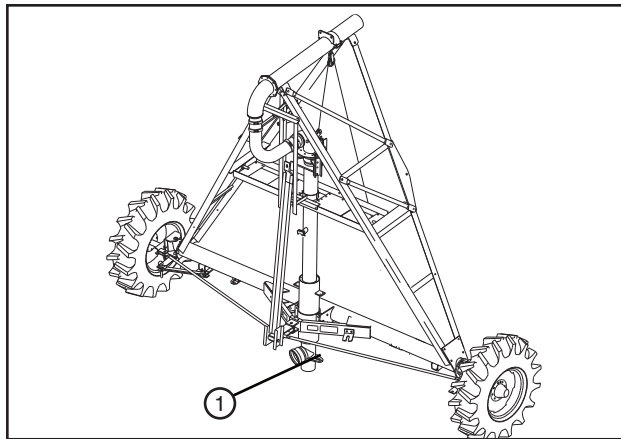

Figure 54-1 1. Riser Pipe
22. Connect the water supply line to the lower riser. See figure 54-1.